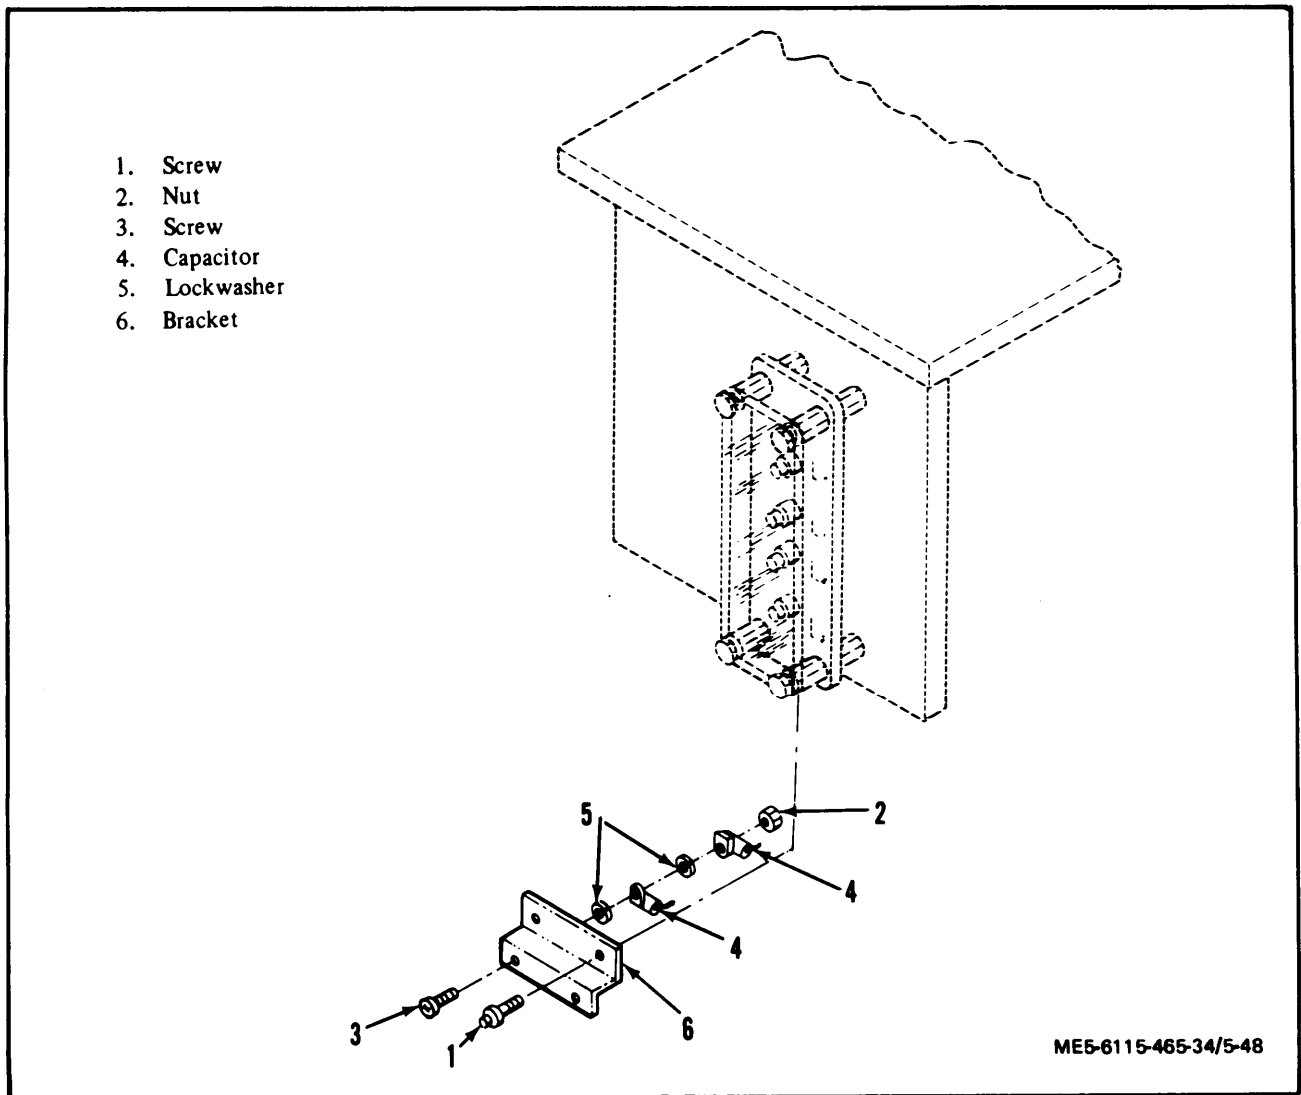

Figure 5-48. Interference Suppression Components
(1) Remove screws (1, figure 5-48) and disconnect and tag electrical leads.
(2) Remove nuts (2), screws (3), capacitors (4) and lockwashers (5) from bracket (6).
(3) Reassemble in reverse order using new capacitors.